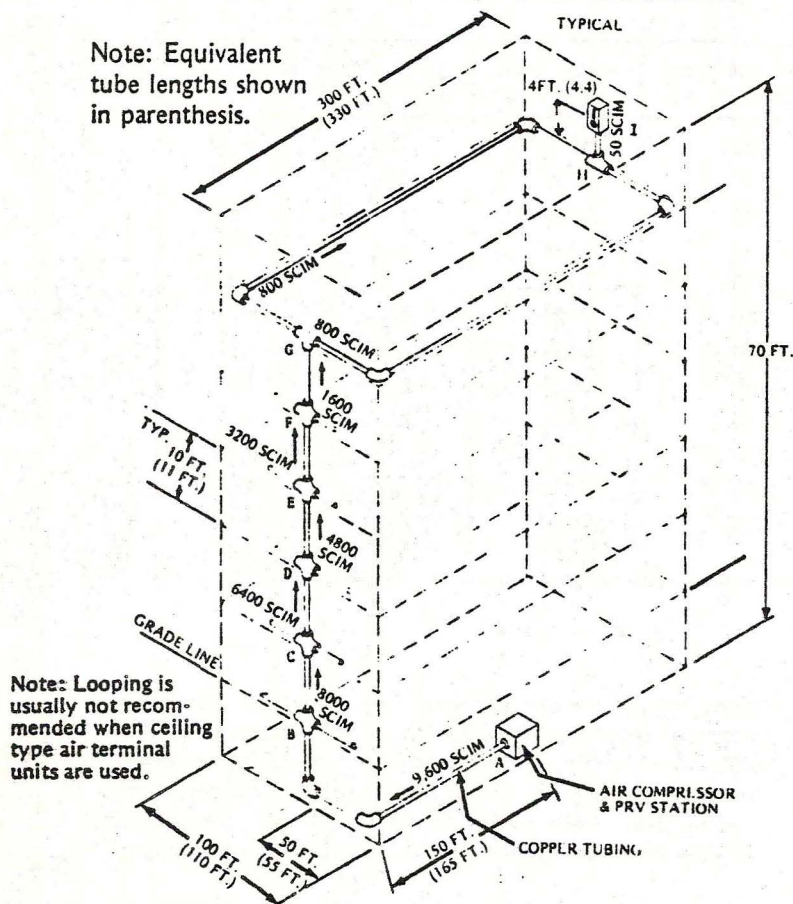

Figure 3
Figure 3 shows a typical Hi-Rise building (6 floors) which must be heated and cooled. For clarity only the top floor is shown. H-C thermostats are spaced every 25 ft. (32 thermostats) on each floor. One air main will be used to supply air to all six floors, and must be located as shown. Each floor must be looped with plastic tubing. Determine the copper tube air main and plastic tube loop sizes required.
*Note that this air flow rate does not determine compressor size. From Figure 3, the longest tube run is from A to I and has an actual length equal to: